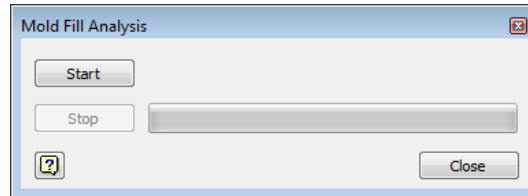

*Figure 19-96 The Summary dialog box*
4. After the analysis is complete, the **Summary** dialog box is displayed, refer to Figure 19-96. Choose the **OK** button from the dialog box; the suggested process settings are applied.